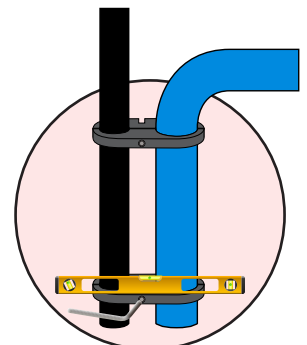

Fig 4.
5. Ensure that both the clamps are horizontal by using a spirit level, once level tighten up the bolts. (see fig 4)